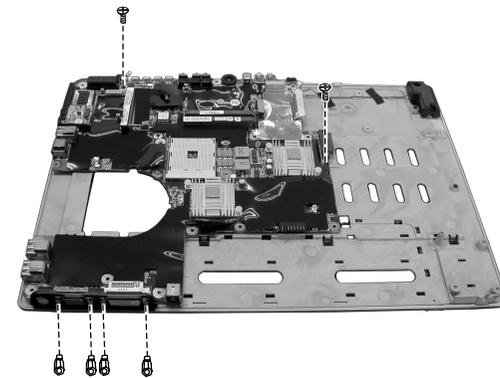

Figure 2-27 Free the system board
5. Remove the two screws and four hex nuts, then lift the system board from the top cover and free the system board. (Figure 2-27)